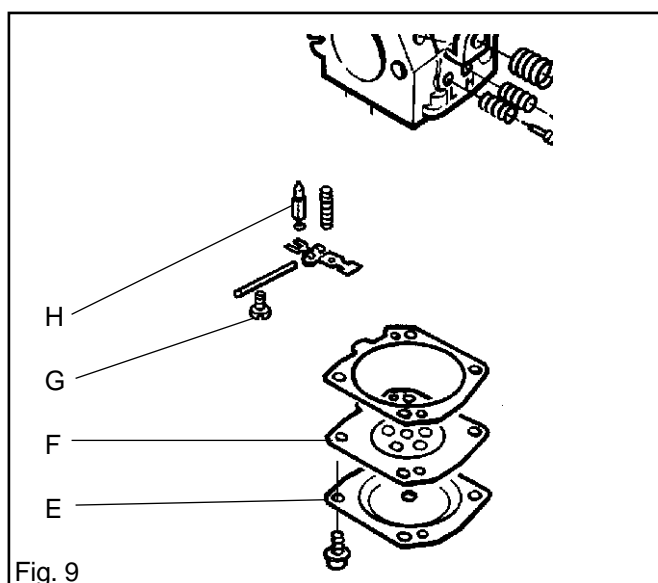

Fig. 9
7. Remove the top cover (E) of the metering unit and carefully remove the metering diaphragm (F) and gasket. See fig. 9.
8. Undo the screw (G) and take out the needle valve (H) together with the lever arm, spindle and spring. See fig. 9.